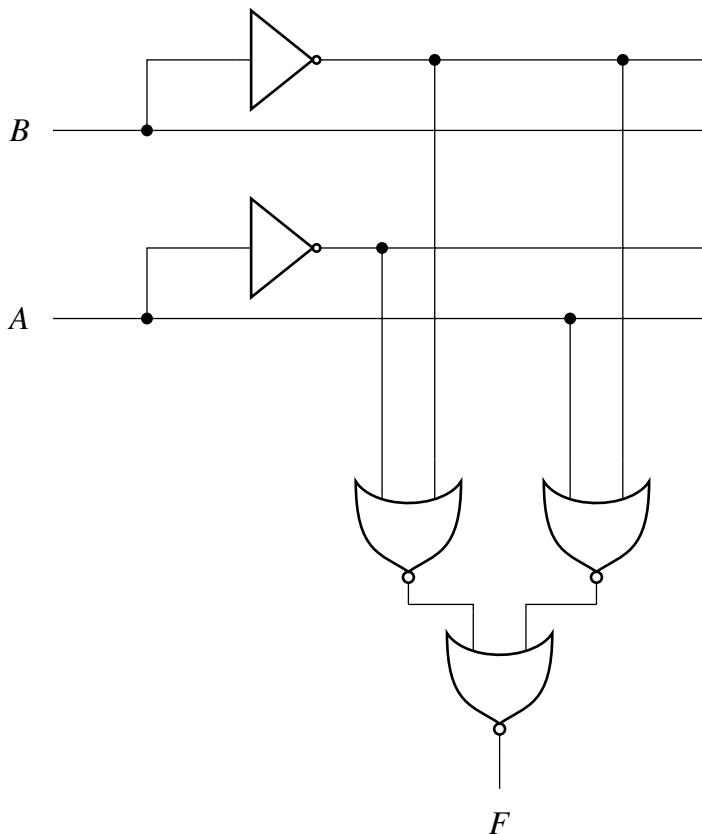

Fig. 4.15: Circuit
26. The logic block shown in Fig. 4.15 has an output F given by _____. (GATE IN 2022)